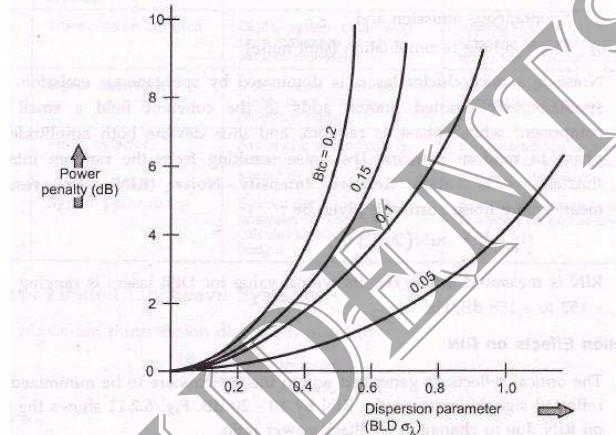

Fig. 6.2.10 Chirp induced power penalty
- x Fig. 6.2.10 shows power penalty as a function of dispersion parameter BLD  $\sigma_\lambda$  for several values of bit period (Btc).